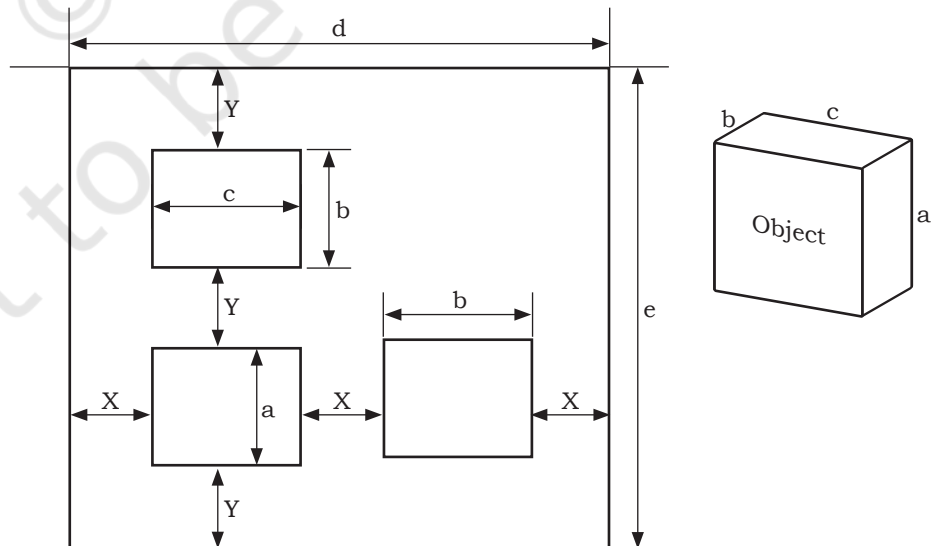

Fig. 1.38: Spacing of views
4. Divide the 'free space' into three equal portions, both horizontally and vertically. This determines X and Y as shown in the Fig. 1.38.